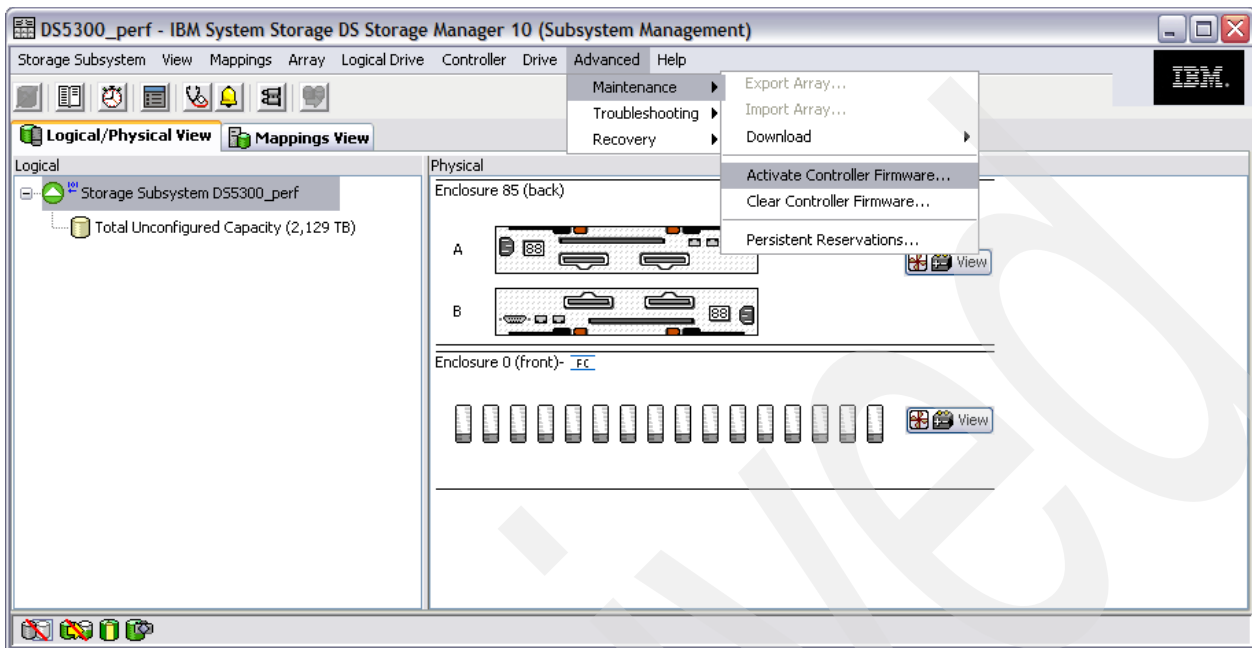

Figure 7-9 Subsystem Management window: Firmware activation
- If you choose a staged firmware upgrade, the new firmware is now ready for activation. To activate the new firmware, select **Advanced** → **Maintenance** → **Activate Controller Firmware**, as shown in Figure 7-9.